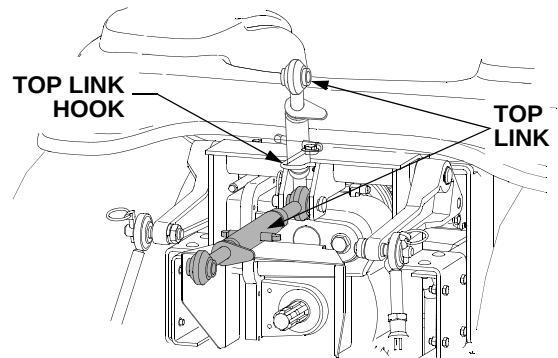

Figure 19
- Pivot the link hook from its storage position to the center and lower the top link into the hook of the rod. See Figure 19.